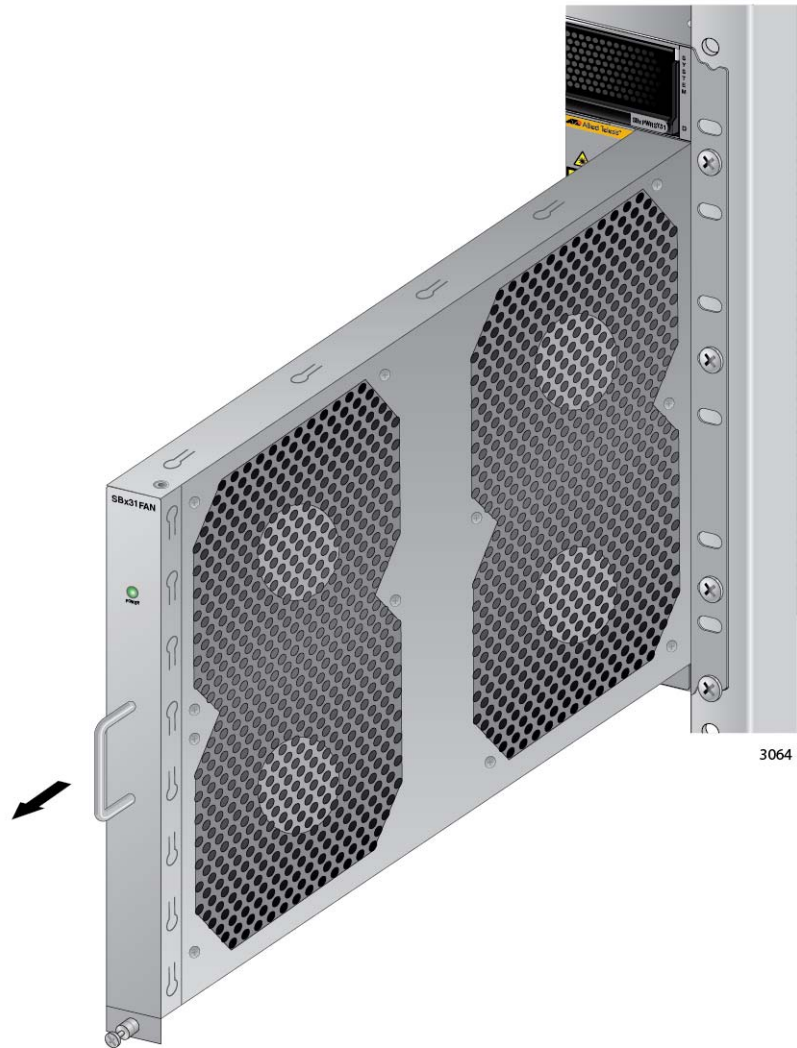

Figure 159. Removing the AT-SBxFAN12 Fan Module from the Chassis
6. After the fans have stopped, slide the module from the chassis. Refer to Figure 159 on page 247.